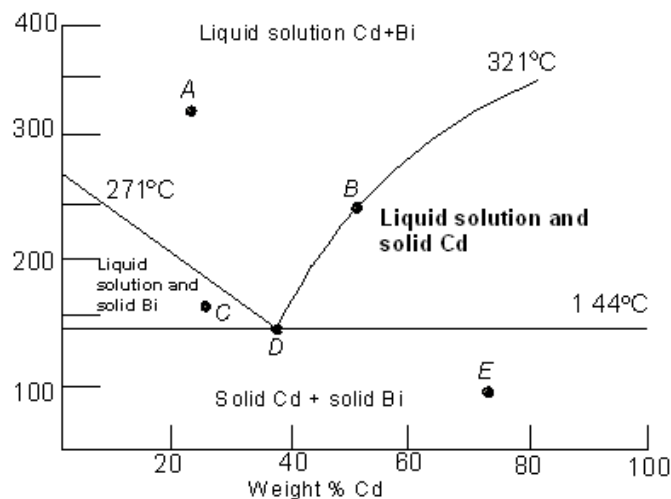

Fig.4.5 - The Bismuth – Cadmium Equilibrium Diagram
- ▶ To explain this type of system it is necessary to consider the cooling and solidification of three compositions 1, 2 and 3.(fig 4.5)
- ▶ At the eutectic temperature, the two pure metals crystallize together to give a characteristically fine aggregate [Fig. 4.5 (C)] known as a eutectic.
- ▶ At T2 more Cd is deposited and dendrites begin to develop from the already formed nuclei (Fig. 4.5 (D)).